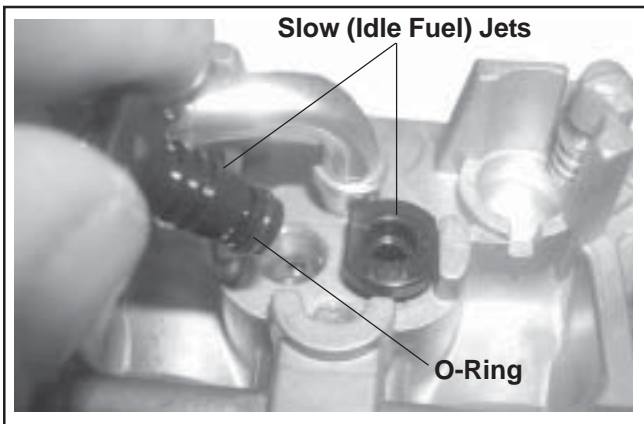

Figure 5-26. Slow Jets and O-Ring Detail.
9. Make sure the O-Ring near the bottom of each slow jet is new, or in good condition. Align and insert the two slow jets into the top of carburetor. See Figure 5-26.